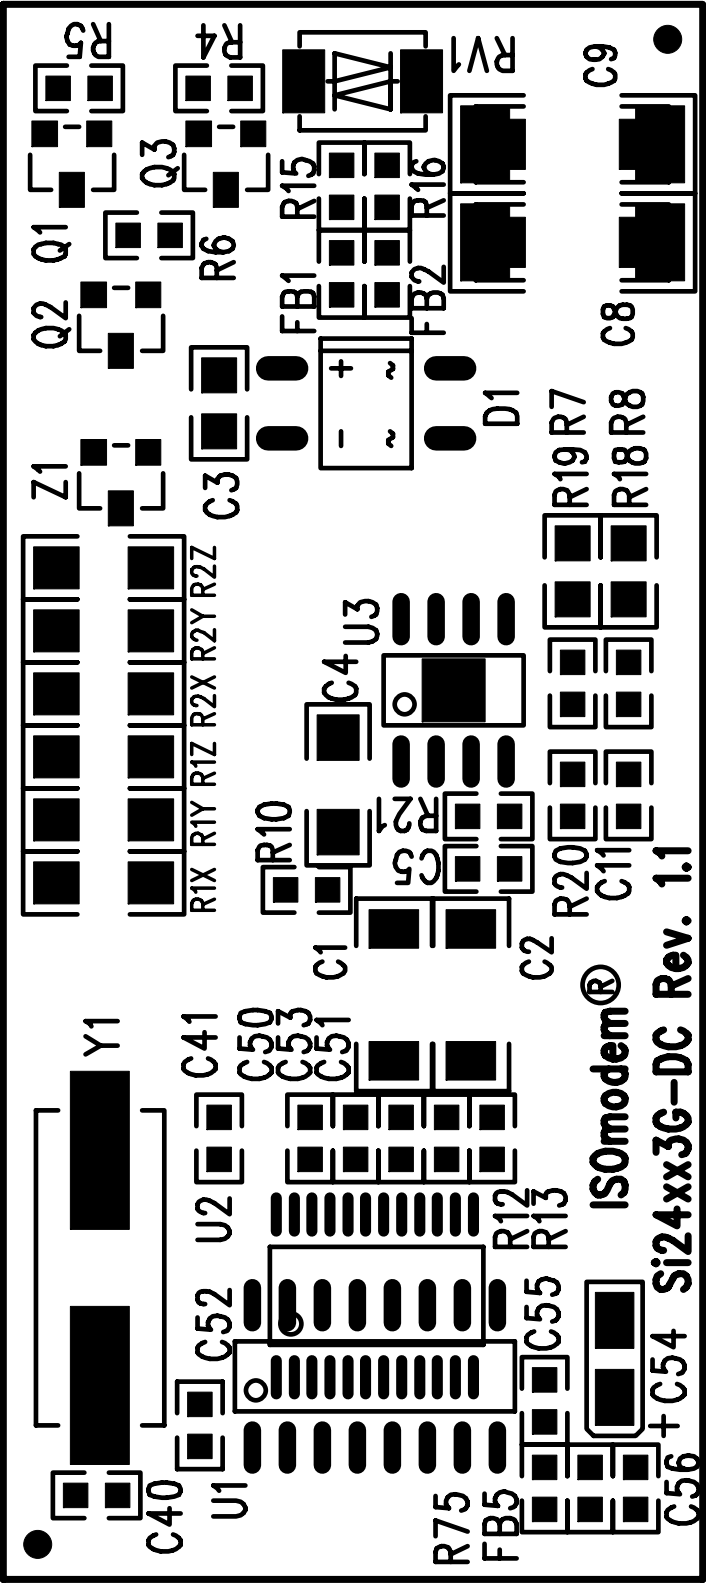

Figure 38. Daughter Card Component Side
4. Place and group the following components around U3: C4, R18, R19, R20, R21, C5, C11, R7, and R8. These components should form the critical “inner circle” of components around U2. Refer to Figure 38 on page 173 for a sample placement.